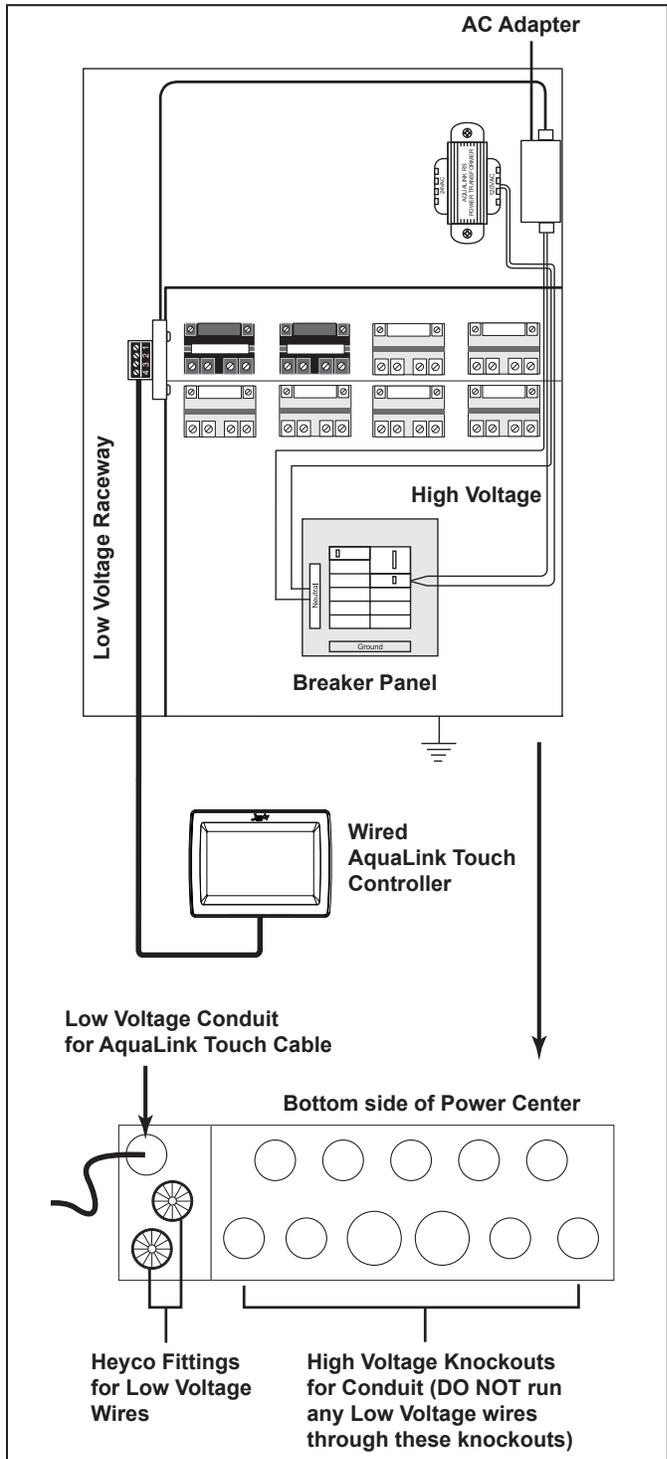

Figure 7. Wiring in the Power Center High Voltage Area
**NOTE** The AC adapter and the power center transformer will share the breaker panel terminals. See Figure 7.